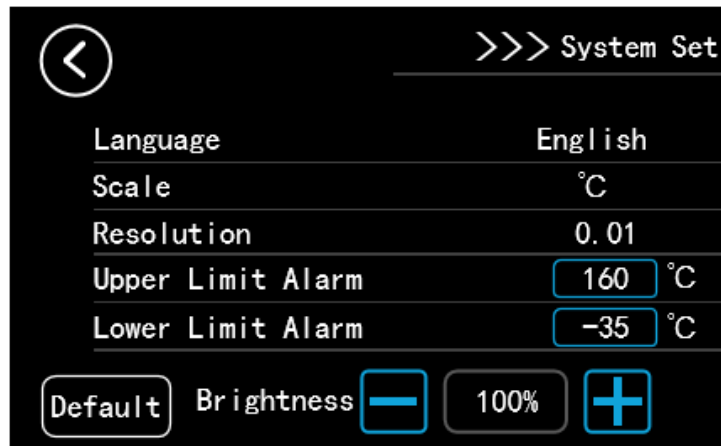

Fig 4.3 System Setting Interface
**System Settings:** general setting items, including Language, Scale, Resolution rate, Brightness, Temperature Upper and Lower Limit Alarm, showed as Fig 4.3.